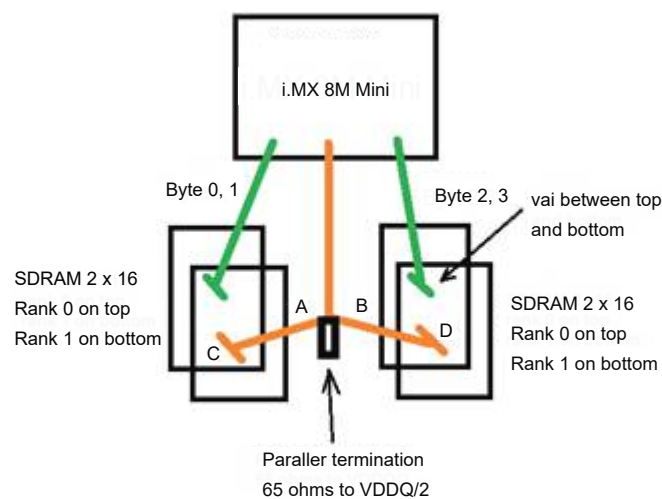

Figure 12. PCB routing topology for a 2-rank system
2. For data bytes, route straight from SoC to the SDRAM devices and via up and down with minimal stubs, see Figure 12. For address/command signals, it is a "T" structure with a branch to the SDRAM devices and via up and down with minimal stubs. And add a parallel termination (about 65 ohms to VDDQ/2 or VTT) at the branch point of the "T".